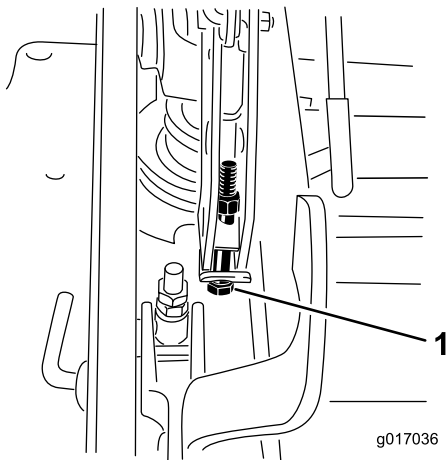

**Figure 88**
- 12. To adjust the single point system, loosen the two bolts at the bottom of the height of cut plate. Refer to Figure 88.
14. Tighten the two bolts at the bottom of the height of cut plate (Figure 88). Torque to 27-33 ft-lb (37-45 N-m).